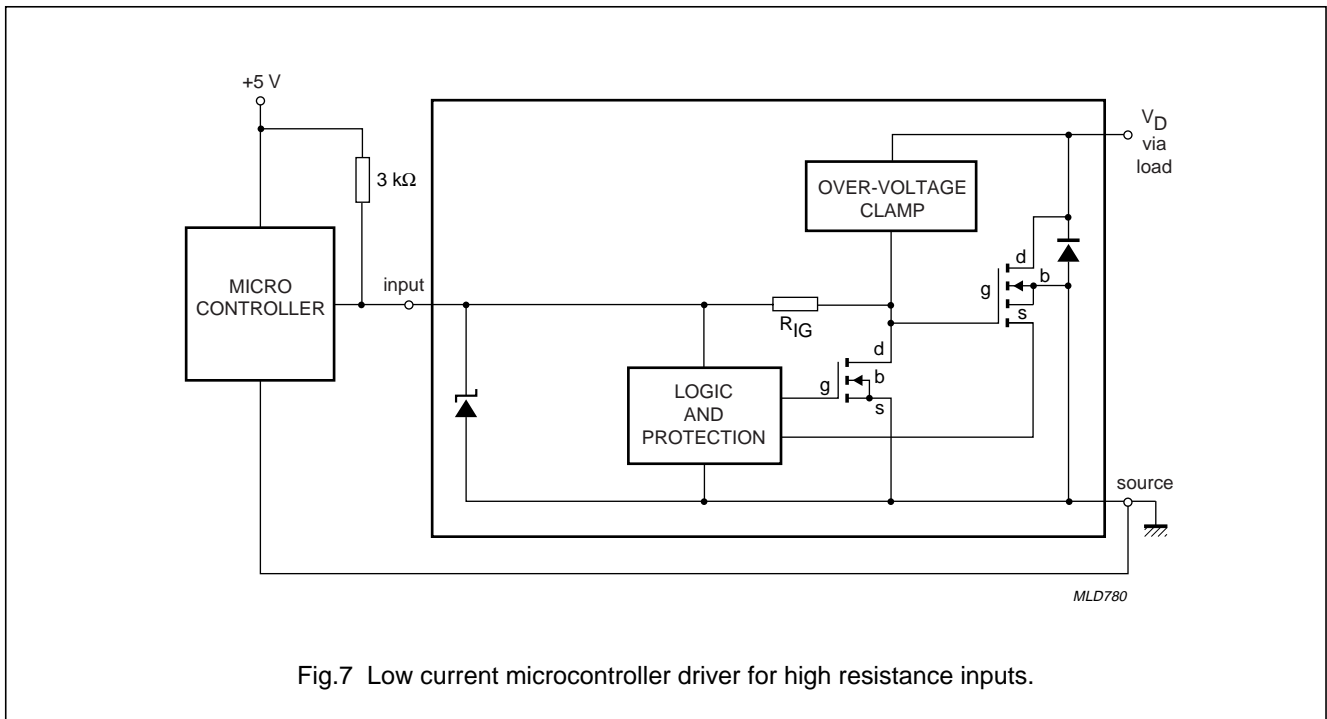

Fig.7 Low current microcontroller driver for high resistance inputs.
- A microcontroller output port can satisfy the input requirements of the standard TOPFETs with an input resistance of 33  $\text{k}\Omega$  (see Fig.7)